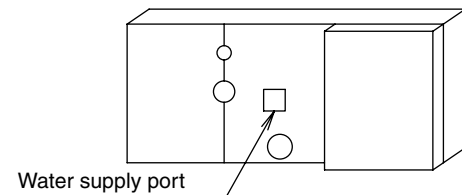

Fig. 13
- (2) After piping work is finished, check drainage flow smoothly.
- Open the water supply port, add approximately 1 litre of water slowly into the drain pan and check drainage flow. (Refer to Fig. 13)